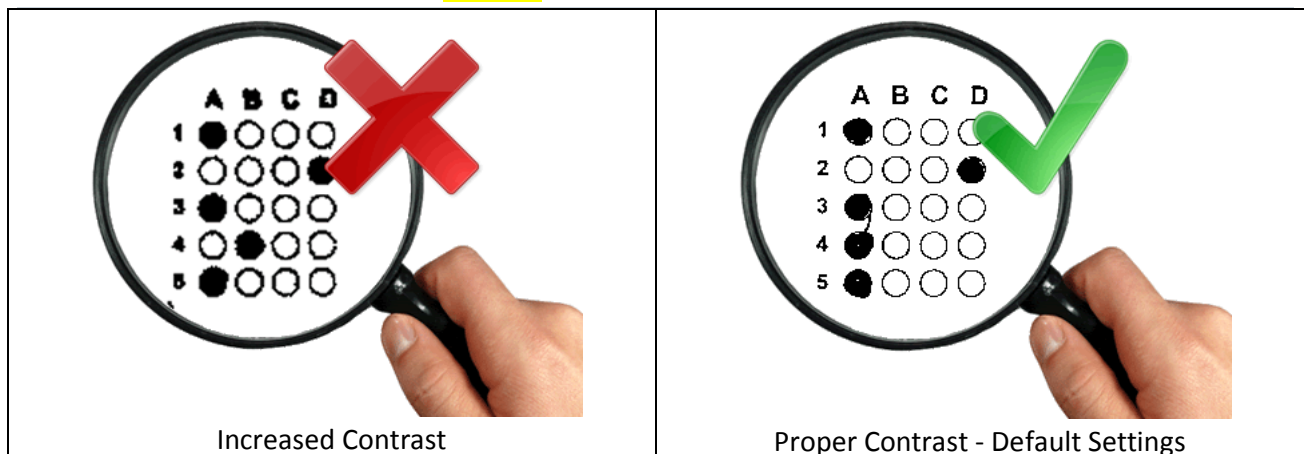

Figure 4 : Scanning Contrast
- **DO NOT** increase brightness or contrast unless guided (see fig. 4). Scan at default settings.